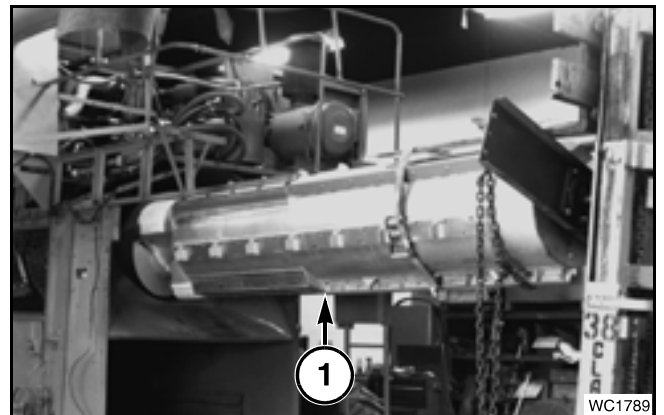

FIG. 124
FIG. 124: Lift the rotor using a fork lift. Put the tines of the fork lift between the rotor and separator housing guide vane shell. Chain the fork lift tines to the rotor, then support the rear of the rotor with the fork lift. Raise the rotor (1) off the wood supports.